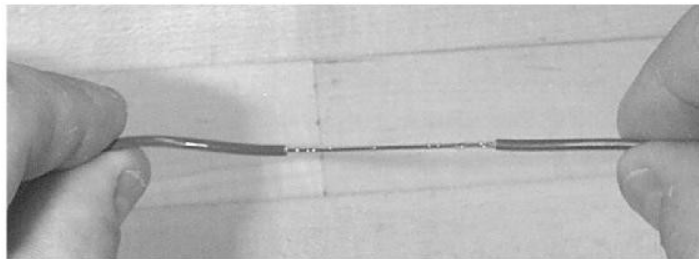

Figure 14 . Remove the buffer tube from the fibres
4.15 Remove the buffer tube segment with steady pulling force to expose the fibres, repeat until correct length is exposed. (Figure 14)